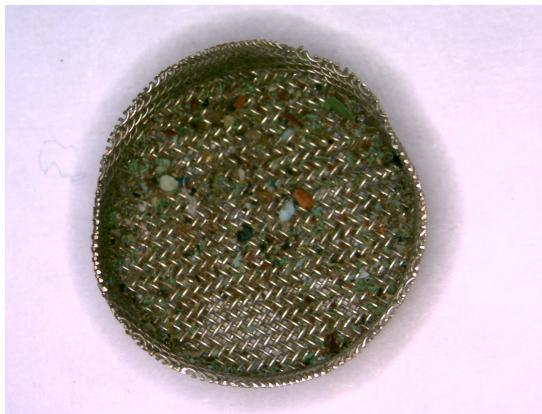

Figure 52: Picture of the filter before cleaning.
- Clean filter with water and by blowing pressurized air against the flow direction (available e.g. in the workshop). Figures 52 and 53 show the filter before and after cleaning.